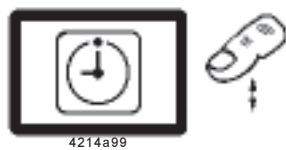

Fig. 24 - Acknowledging the malfunction
- On pressing the button (Fig.24), the flashing display “Er” changes into a continuous light.
- Before filling the reservoir, press the button (Fig. 24) to acknowledge the low level indication.
- * By pressing the button (Fig.24), the flashing display “LL” is changed into a continuous light.